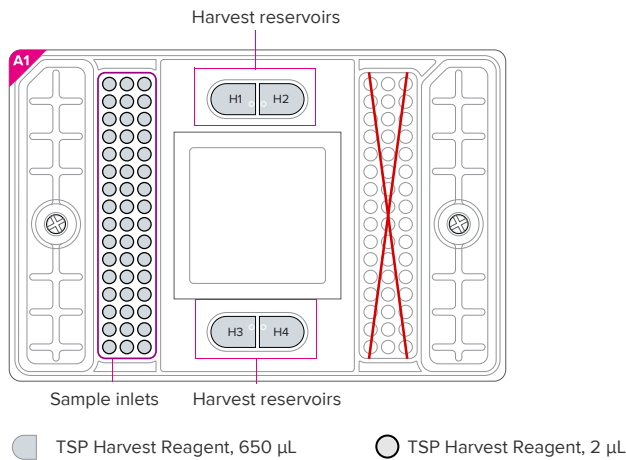

Figure 6. Pipetting map for harvesting the IFC
- 2 Remove the remaining fluids from the H1–H4 harvest reservoirs (see Figure 6)
- 3 Pipet 650 μ L of fresh TSP Harvest Reagent into the H1–H4 harvest reservoirs (see Figure 6).
- 4 Pipet 2 μ L of TSP Harvest Reagent into each of the sample inlets on the IFC (see Figure 6).